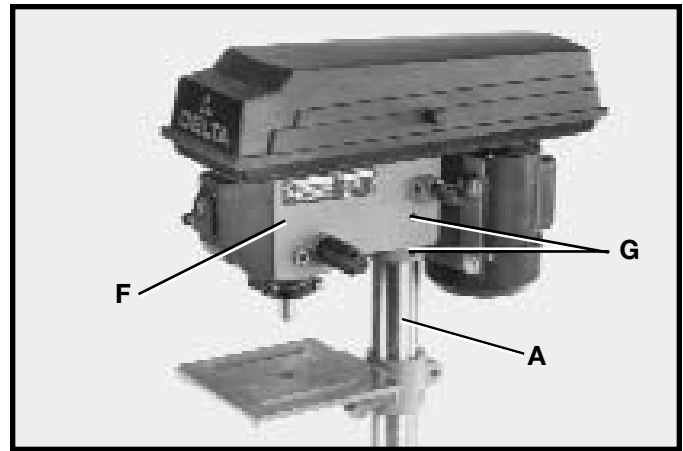

Fig. 6
4. Place the drill press head (F) Fig. 6, onto the column (A) as far as it will go. Align head to table and base and tighten the two head locking screws (G) with wrench supplied.